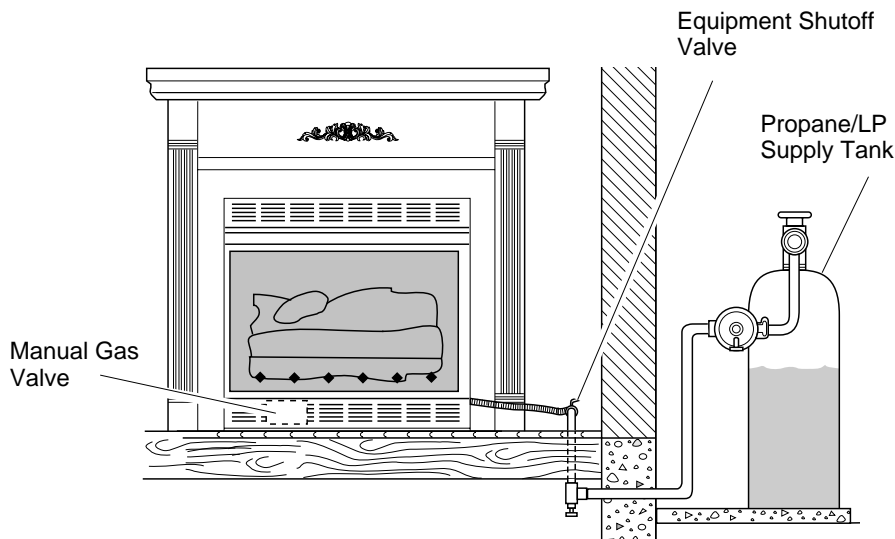

Figure 28 - Checking Gas Joints
3. Check all joints from propane/LP supply to equipment shutoff valve (see Figure 28, page 16). Apply mixture of liquid soap and water to gas joints. Bubbles forming show a leak.
4. Check all joints from equipment shutoff valve to thermostat gas valve (see Figure 28, page 16). Apply mixture of liquid soap and water to gas joints. Bubbles forming show a leak.